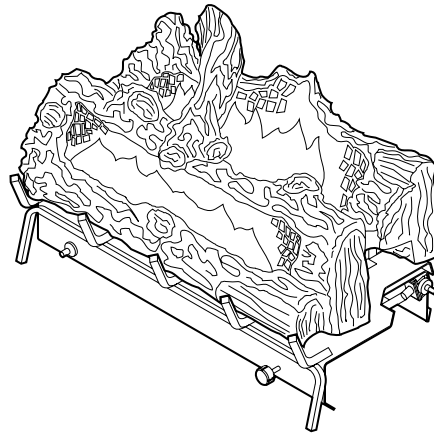

Figure 14
**Rear Burner Characteristics**— The rear flames should be yellow. The flames should extend about 3 – 4" above the front log for natural gas and 2 – 3" above for propane (L.P.G.) gas (Figure 14).